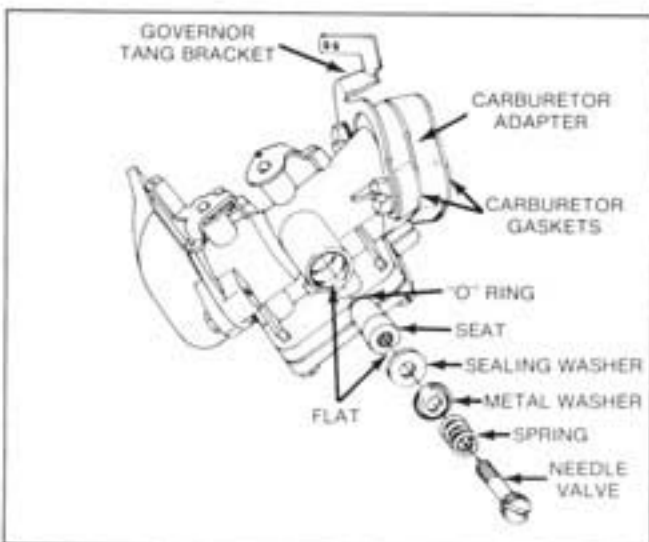
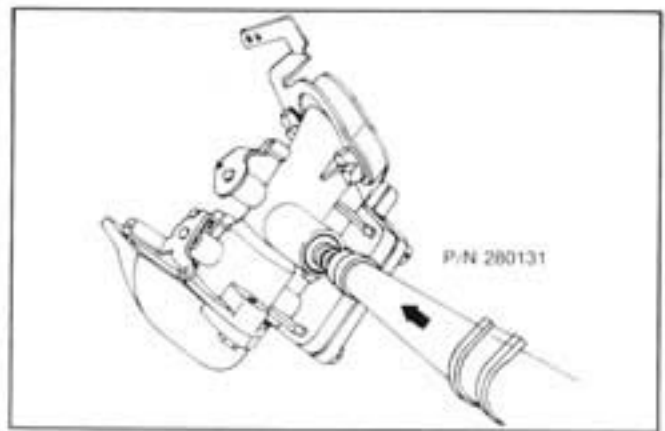

Fig. 19 — Seat Assembly
Fig. 20 — Install Seat Assembly
Place "O" ring on shoulder of seat and assemble needle spring, sealing washer and metal washer, Fig. 19. Turn needle valve in until sealing washer just touches the seat. Install seat assembly into needle and seat bore aligning flat on the seat with flat in seat bore. Use oil fill tube, part #280131 to firmly seat the assembly, Fig. 20.
2. For ease of assembly to cylinder, pre-assemble governor tang bracket, carburetor gaskets and carburetor adapter using carburetor mounting screws to keep parts in line. Be sure impulse holes are in line, Fig. 19.